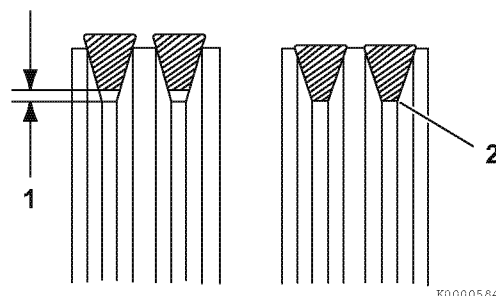

Figure 5-3
3. Tighten the V-belt to the proper tension. There must be clearance (1, **Figure 5-3**) between the V-belt and the bottom of the pulley groove. If there is no clearance (2, **Figure 5-3**) between the V-belt and the bottom of the pulley groove, replace the V-belt.
5. Inspect the condition of the used V-belt. There must be clearance (1, **Figure 5-3**) between the V-belt and the bottom of the pulley groove. If there is no clearance (2, **Figure 5-3**) between the V-belt and the bottom of the pulley groove, replace the V-belt.